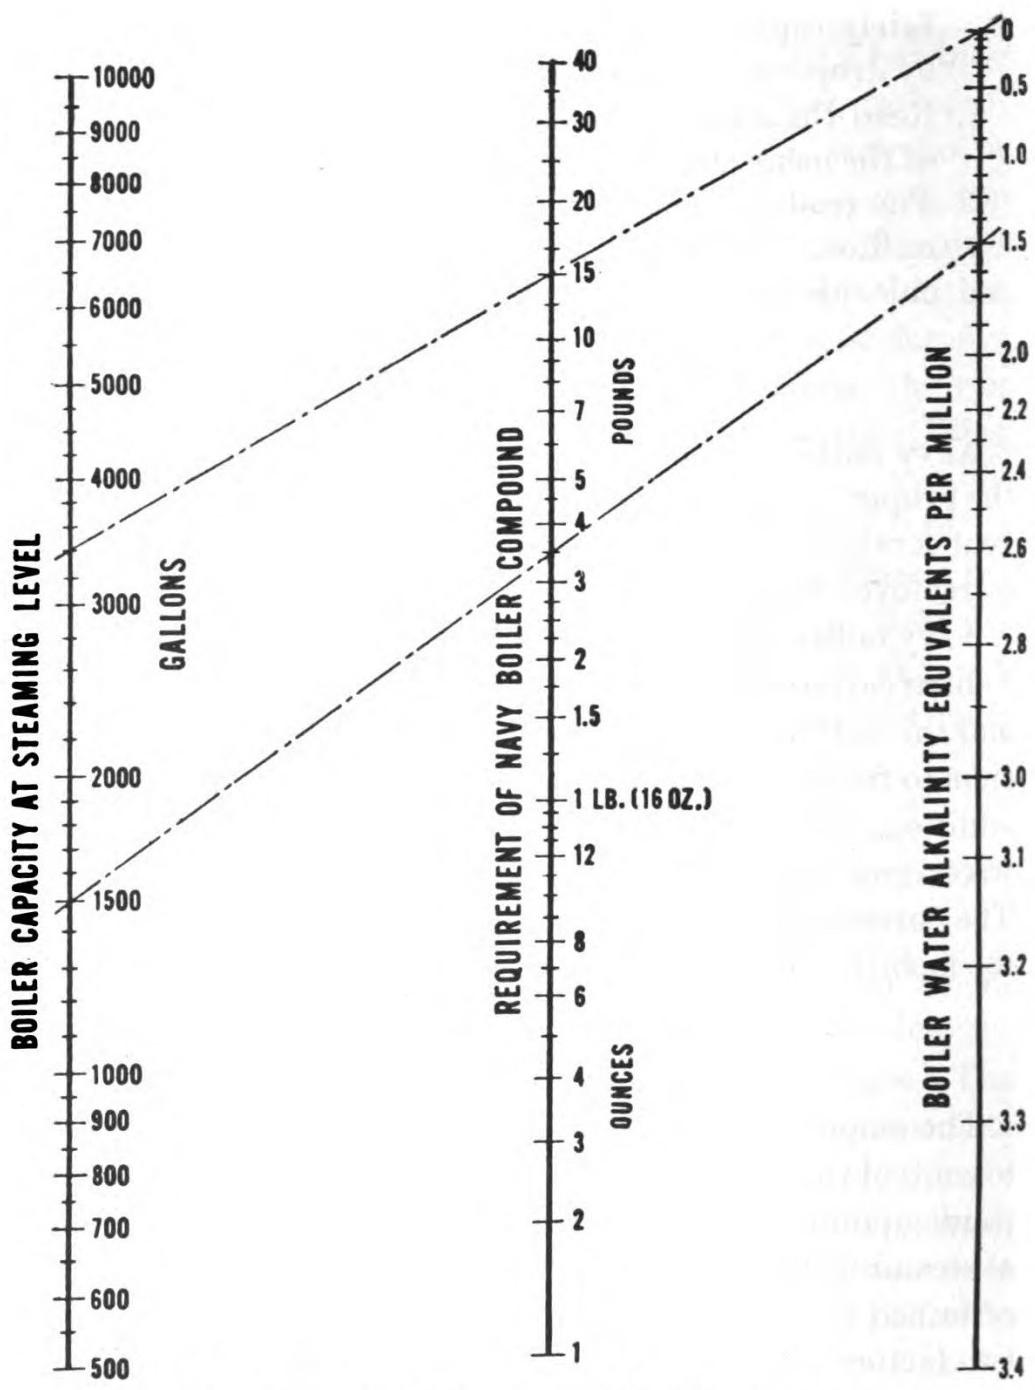

Figure 8-5.—Chart for calculating dosage from boiler water alkalinity.
The amount of compound which must be added to a boiler to control the alkalinity and hardness of the boiler water depends upon two things: (1) the water capacity of the boiler at steaming level, and (2) the condition of the water, as ascertained by the alkalinity and hardness tests. When these two factors are known, the calculation of dosage may be made from the charts shown in figures 8-5 and 8-6.
Figure 8-5 shows the chart used for calculating boiler compound dosage for a steaming boiler, on the basis of the results of the alkalinity test. Place a straight edge across the
Figure 8-5 should also be used to determine boiler compound dosage when a boiler has been emptied and is being filled to steaming level with fresh feed water. In this case, place the straight edge across the chart from **ZERO** alkalinity to the water capacity at steaming level.